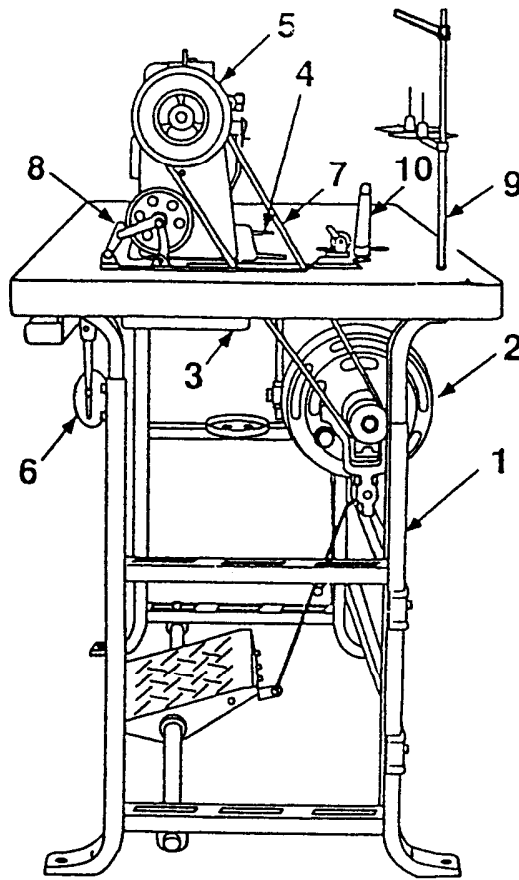

Fig.1
## SETTING UP THE MACHINE (Fig.1)
1. Push a bobbin on the bobbin winder spindle (3) as far as it will go.
2. Pass the thread from the thread stand downward through the eye (1) in the tension bracket, then between and around the back of the tension disc (2).
4. Push the lever (4) toward other side so that the pulley and V belt (7, Fig.1) will engage and then start the machine.